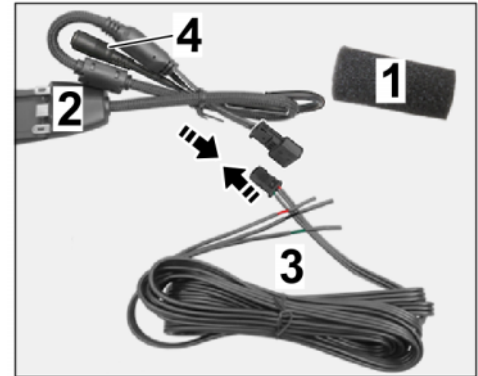

Figure 13
3.2.2 Connect plug connection (3-pin) (⇒ *Figure 13 -Arrows-*).